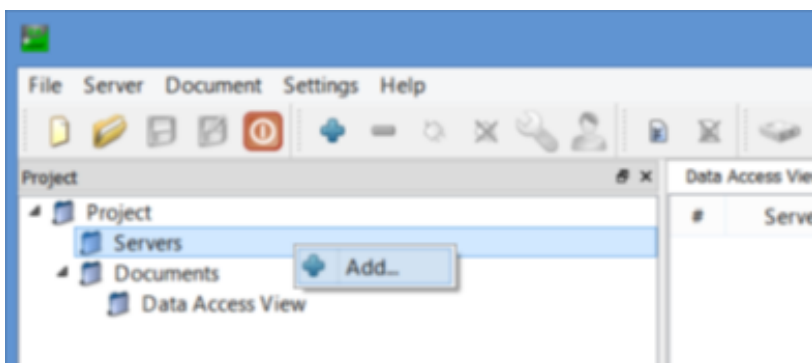

Figure 3-4: Add option
3. In the Project tree, right-click **Servers** and click **Add**. (Figure 3-4)